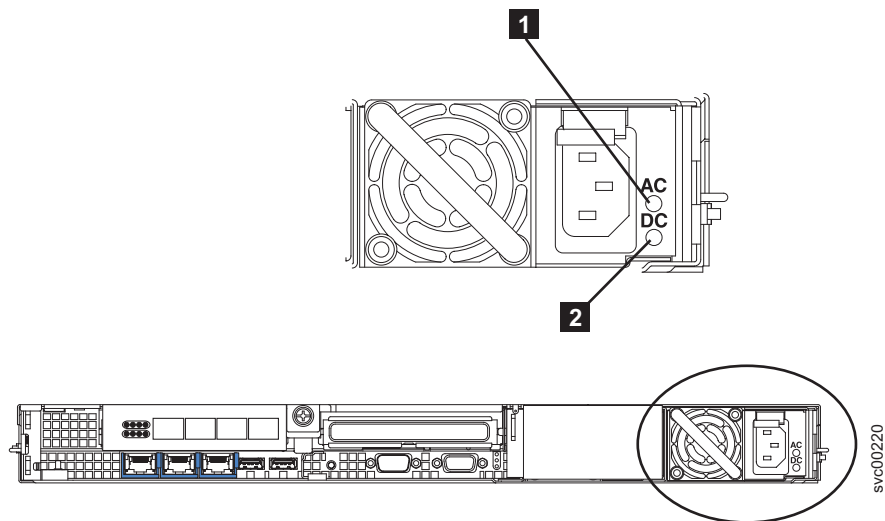

Figure 130. SAN Volume Controller 2145-8G4 ac and dc LEDs
4. Make sure that the ac power LED **1** and the dc power LED **2** (shown in Figure 130) on the power supply are lit, indicating that the power supply is operating correctly. The two green LEDs are next to the power-cord connector.